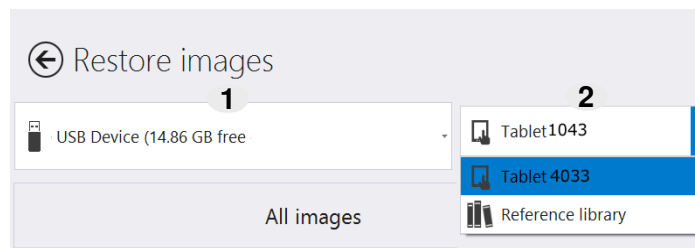

Figure 9-8: (1) Source Storage Device button, and (2) Library button.
3. At the top of the Content pane, tap the Source Storage Device button (see Figure 9-8). A list of available storage devices displays. Tap the storage device to use.